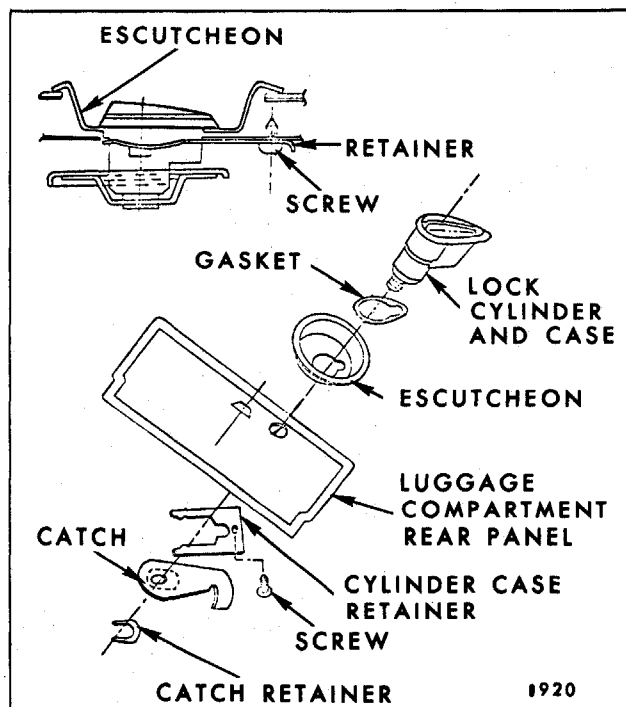

Fig. 9-90-Luggage Compartment Lock - "A" Body Styles
2. On underside of luggage compartment rear panel remove catch retainer and catch from lock cylinder case, then turn lock cylinder with key until cylinder can be removed from case (Figs. 9-90 and 9-94).
Removal and Installation (See Fig. 9-90)